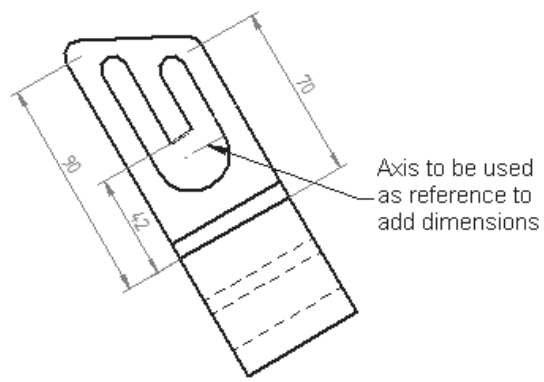

Figure 11-41 Axis drawn to dimension
7. Choose the **Distance Between** button from the **Drawing Views** toolbar and choose the **2 Points** option from the **Orientation** drop-down list. Dimension the auxiliary view with dimensions 90, 42, and 70, as shown in Figure 11-41.
8. To dimension the auxiliary view with dimensions 45, 25, and 33, draw an axis passing through the center of the arc, as shown in Figure 11-41.